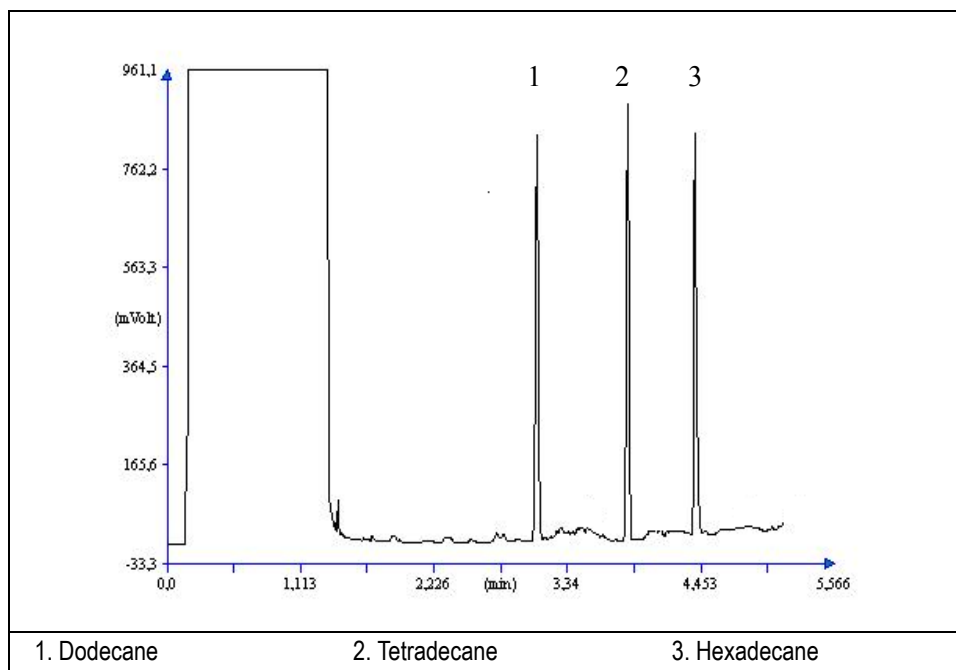

Figure 34-1. FID-LVOC Injection
9. Perform the sequence. The resulting chromatogram should look like the one shown in *Figure 34-1*.